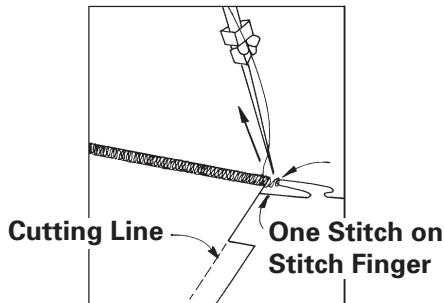

Fig. 21-11
2. Serge the first edge and continue off the corner one stitch. Stop the serger with the needle out of the fabric. (Fig. 21-11)